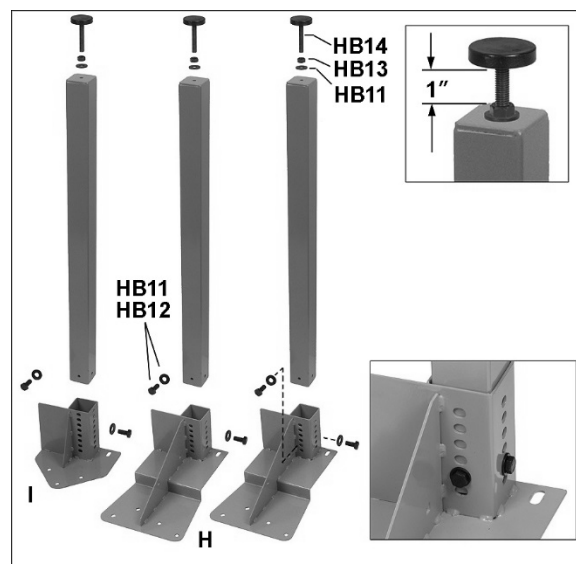

Figure 7-1
1. Install leveler (HB14) with hex nut (HB13) and washer (HB11) into threaded hole on each leg. See Figure 7-1. The hex nut is tightened against the leg to secure setting. Leave about 1-inch protrusion as shown; final adjustment will be made later.
2. Install a leg into each bracket (H and I, Figure 7-1). For the Powermatic saw, insert screw through second hole (see inset, Figure 7-1); this can be adjusted later if needed.